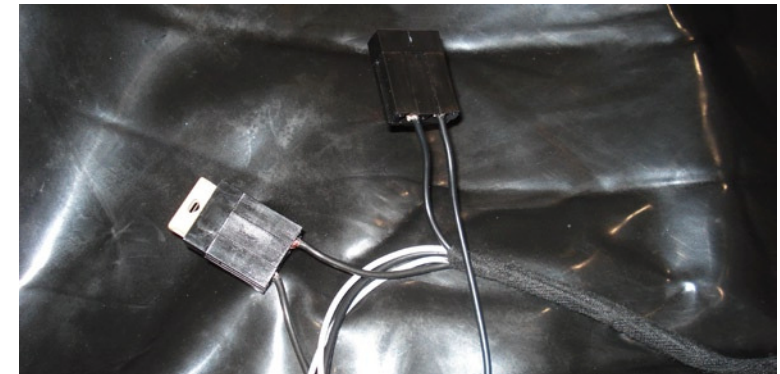

Fig.9
19. The final result of these operations must be the same of the one showed in the picture beside (Fig.9).